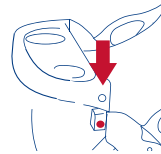

Fig. 10b
• Rotate the tray downward until latched onto the left armrest (Fig. 10b).